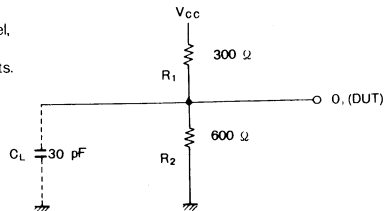

Fig. 1
- Note 1. Output Load: See Fig. 1.
Note 4.  $C_L$  in Fig. 1 includes jig and probe stray capacitances.